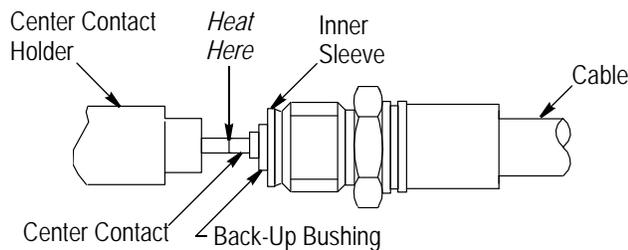

Figure 5
(Figure 5)
- Changed “rear dielectric” to “back-up bushing” in Step 1 of Paragraph 3.3 and Figure 5